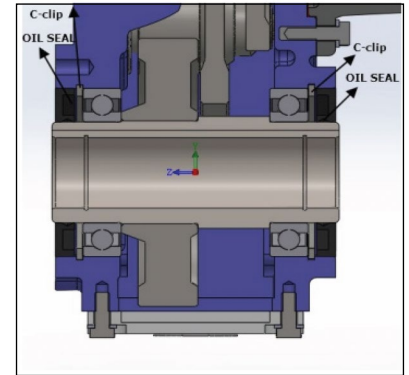

Figure 1
1. Remove oil seal from the output end on the opposite of input (Fig. 1).